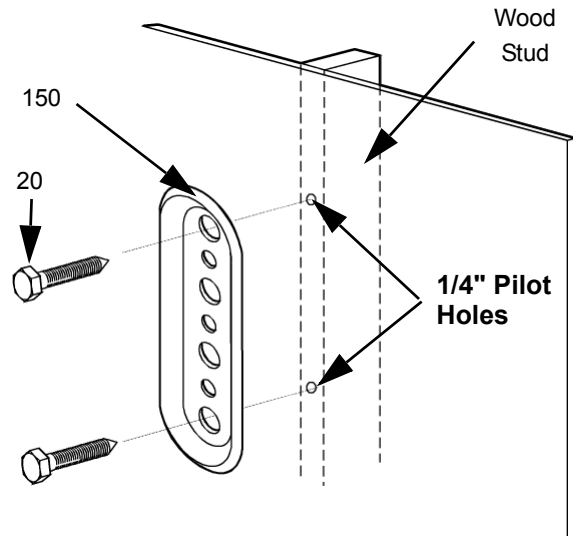

Figure 2: Secure Wall Bracket
2. Using the wall bracket (150) as a template, mark the two pilot holes for mounting the wall bracket. (see figure 2)
4. Using a 9/16" socket wrench, install two lag bolts (20) to secure the wall bracket (150) to the wall. Do not overtighten the lag bolts.